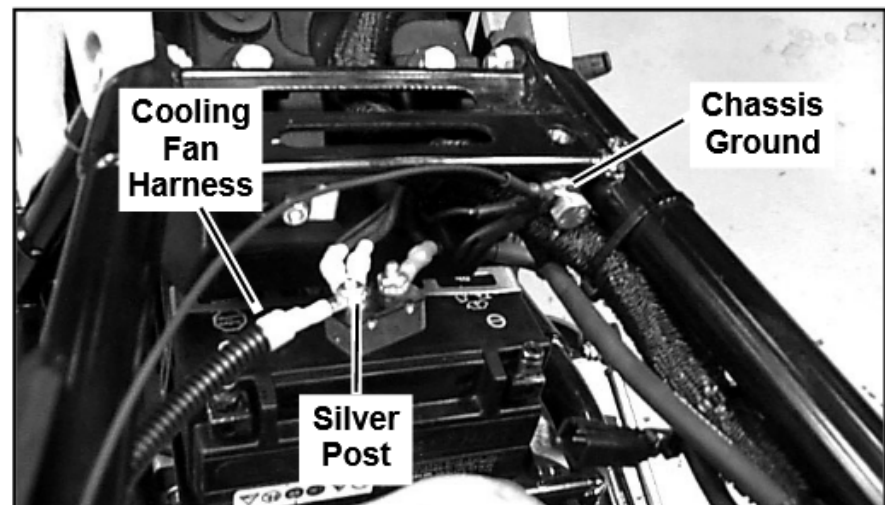

**Figure 5. Remove Front Cylinder Head Cover bolts**
10. See Figure 5. Remove front cylinder head cover bolts and discard.